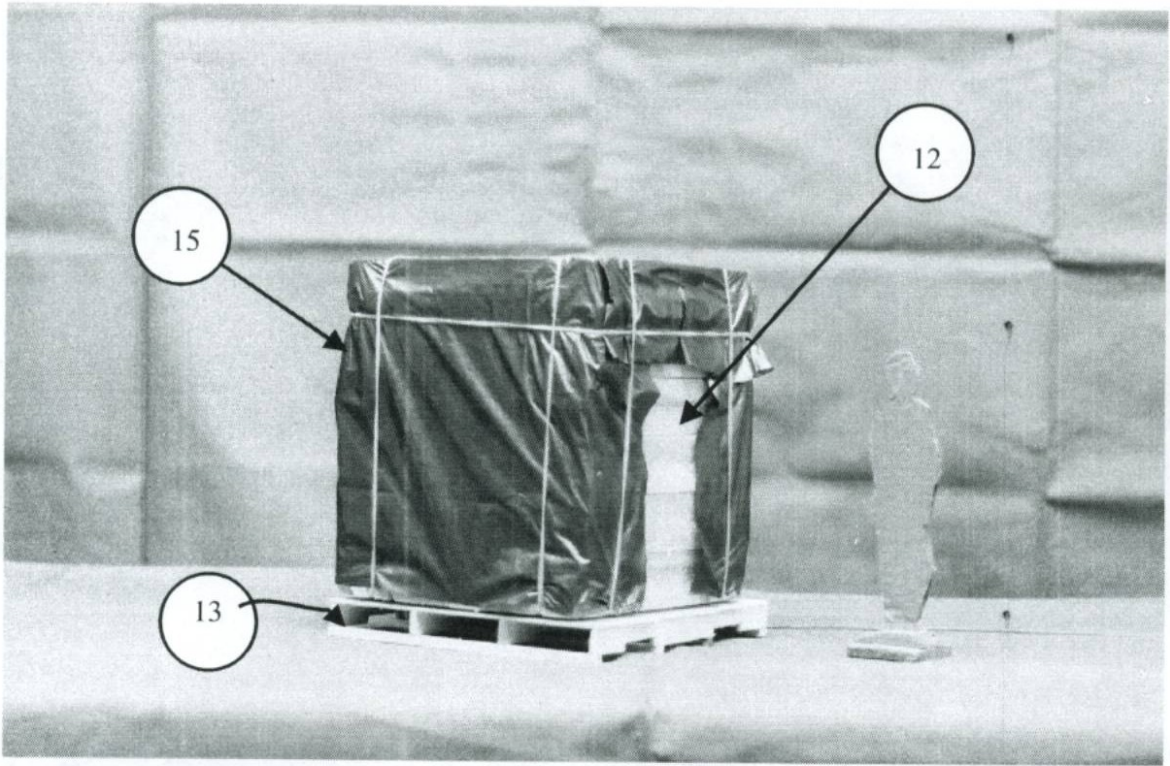

Fig.2
- Fig. 2 Tarpred hay stack on pallet